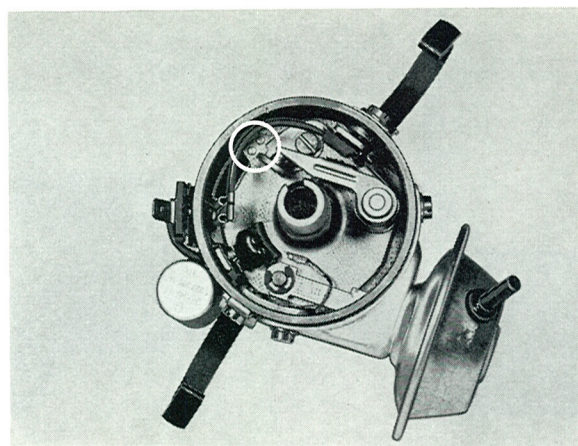

Fig. 3-57. Recess for adjusting the contact breaker
2. Adjustment is made by slackening a little the screw for the breaker contacts and then inserting a screwdriver in the recess, Fig. 3-57, and turning the screwdriver until the dwell angle is the correct one.